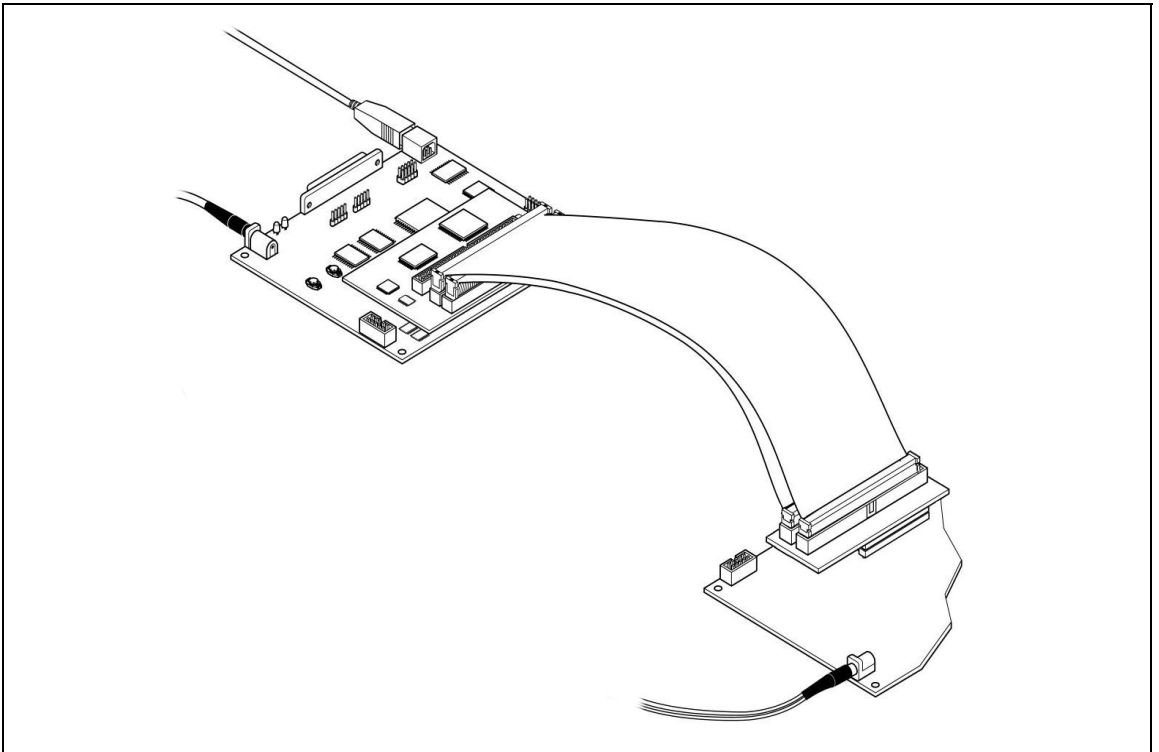

Figure 7: SDIP connection to application board
- 6 Connect the adapter to the socket soldered onto your application board as shown in Figure 7. Ensure that pin number 1 (identified on top of the SDIP adapter) is aligned with pin 1 of the socket on your application board.